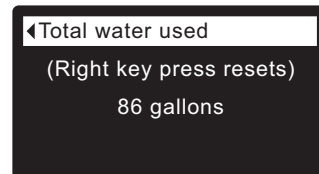

FIG. 68
6. The **Total water used** screen (See Figure 68) shows the volume of water used since it was last reset (it works like the trip odometer in a car). To reset the value to 0, press the RIGHT (▶) button while this screen is displayed.